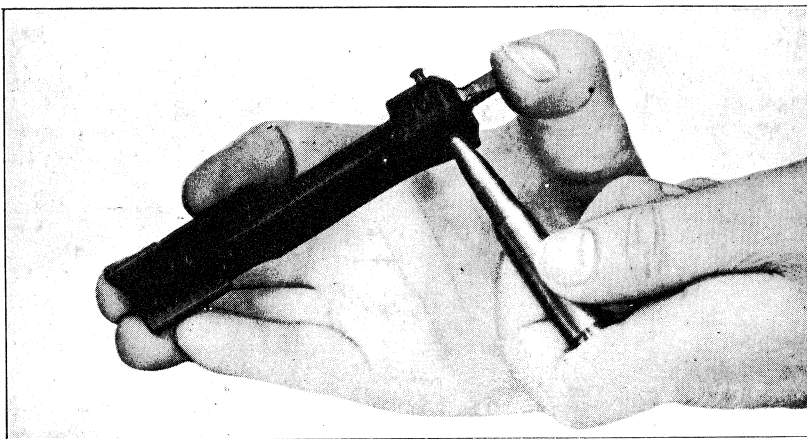

Fig.39
d) **Remove the firing pin** — Press on the rear end of the firing pin, push out the retaining pin; if retaining pin does not fall out, use the point of a cartridge (fig. 39).